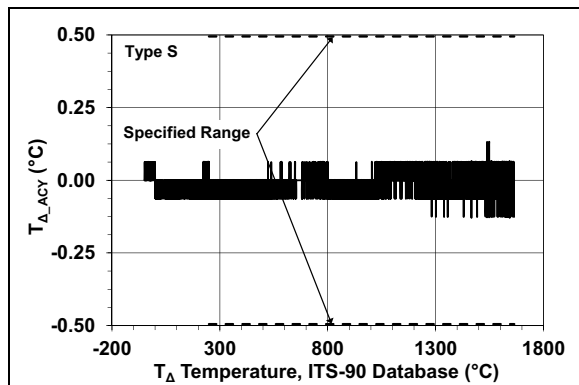
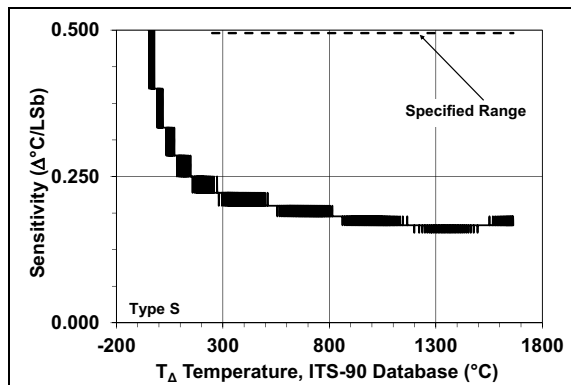

FIGURE 2-7: Typical Temperature Accuracy from NIST ITS-90 Database, Type S.
FIGURE 2-10: Temperature Sensitivity with 18-bit Resolution, Type S.
- 2:** The device measures temperature below the specified range, however the sensitivity to changes in temperature reduces exponentially. Type R and S measure down to $-50^{\circ}C$, or $-0.226mV_{EMF}$ and $-0.235mV_{EMF}$, respectively. Type B measures down to $500^{\circ}C$ or $1.242mV_{EMF}$ (see Figures 2-7, 2-8, 2-14 and Figures 2-10, 2-11 and 2-17).